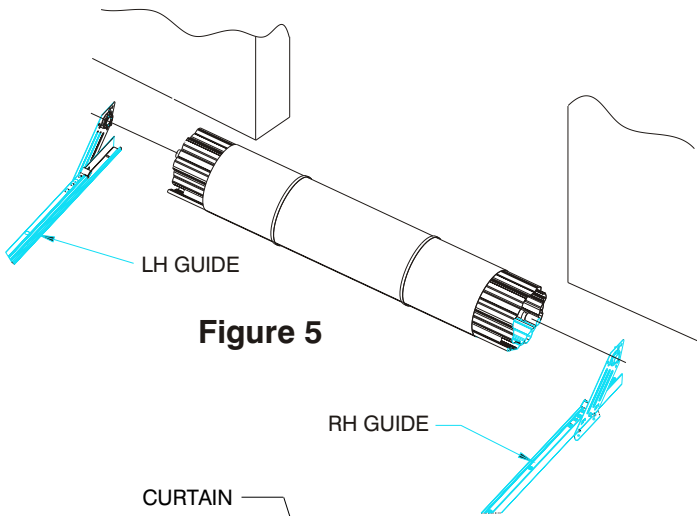

Figure 5
2. Position the guide assemblies at each end of the banded curtain with the headplate near the opening. See Figure 5.